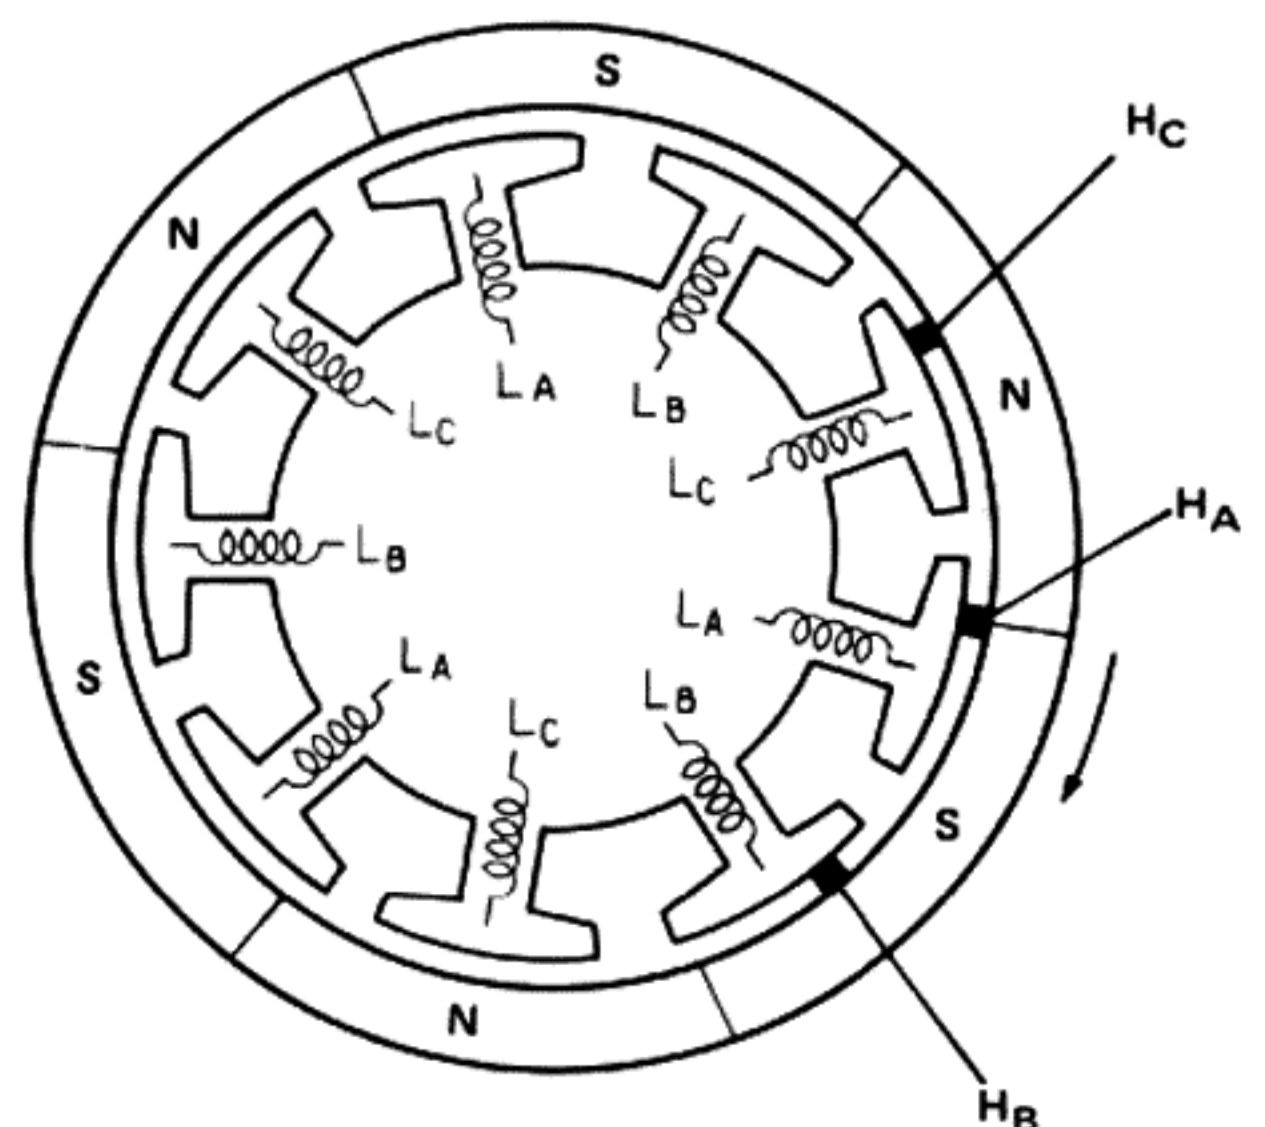

Fig. 3
1. Let us assume that the motor is at standstill, in the position shown in Fig. 3.